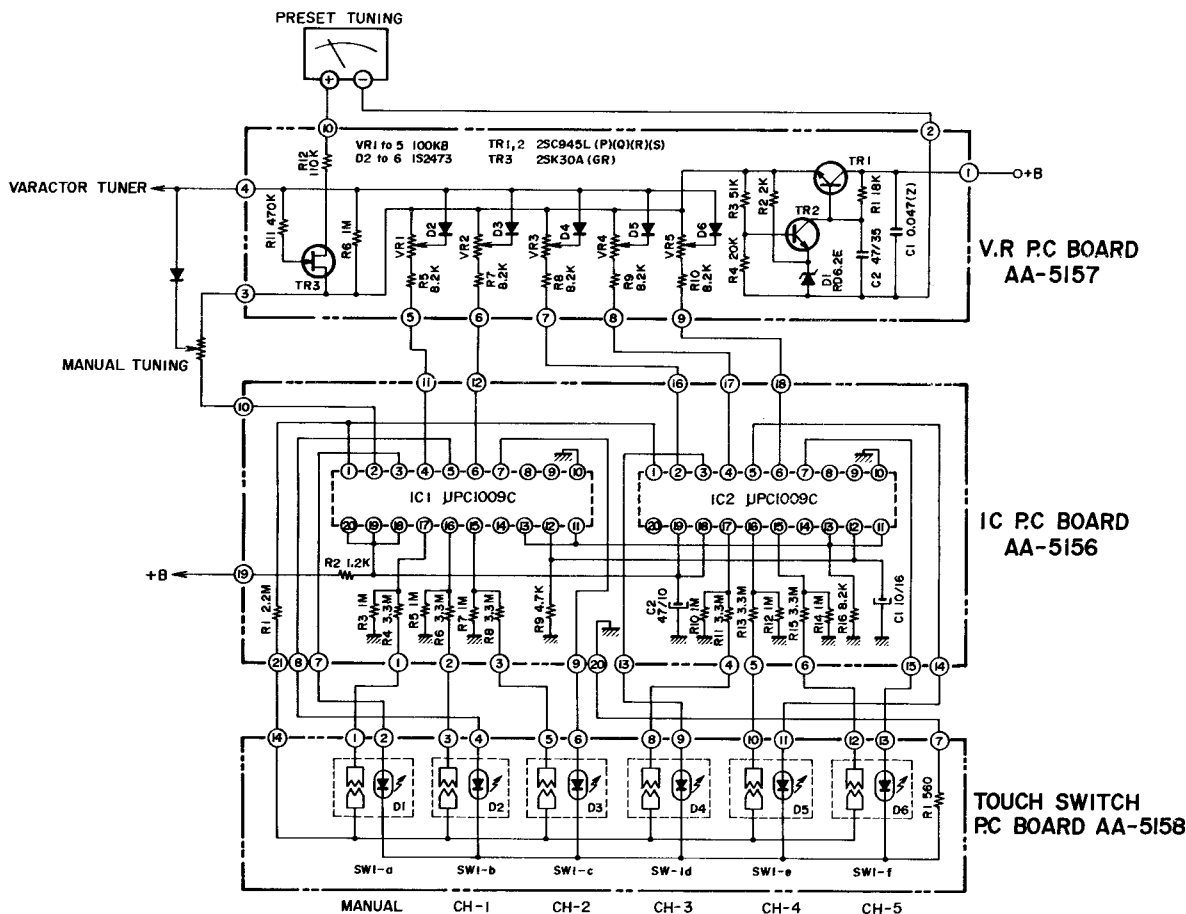
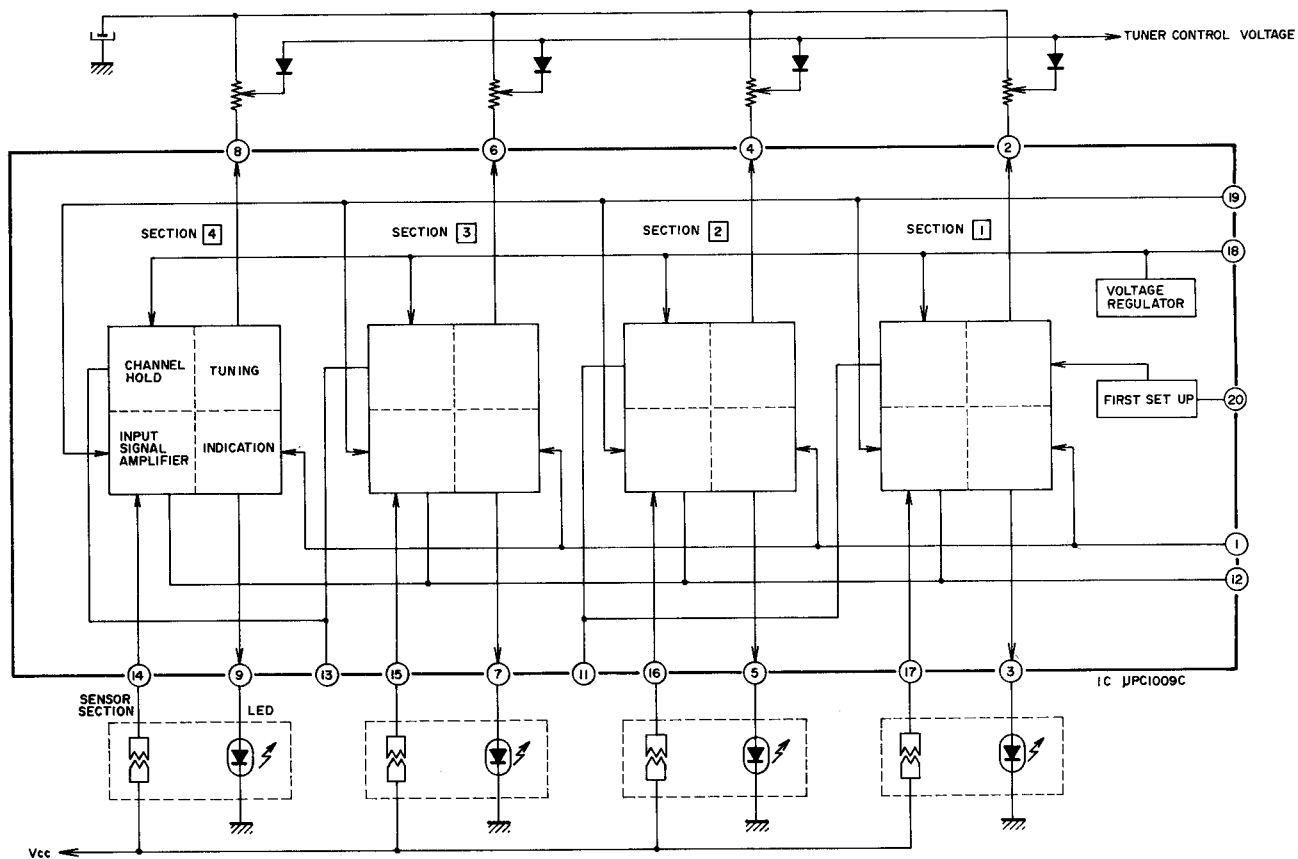
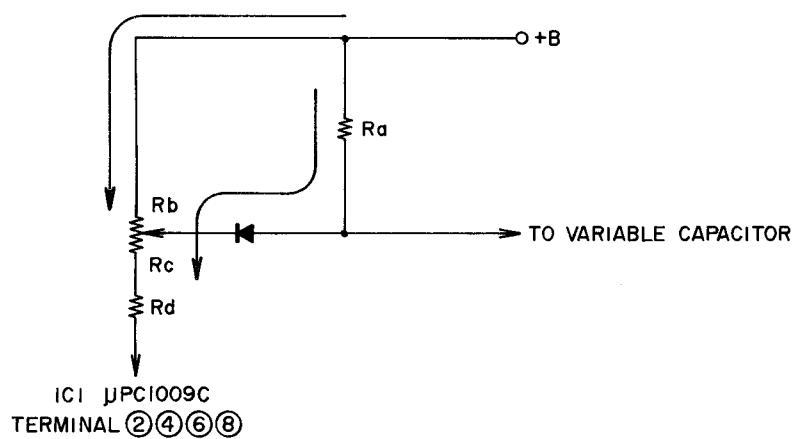

Fig. 7
Fig. 8
Fig. 9
The circuit shown in Fig. 7 is the control voltage generating preset volume and sensi-touch circuit. Fig. 8 shows the inside of circuit sensi-touch IC μ PC1009C which include the 4 channel circuitry. Terminals 14 through 17 are the input terminals; terminals ②, ④, ⑥, and ⑧ are the station selection output terminals; and terminals ③, ⑤, ⑦, and ⑨ are the pilot output terminals. When channel 1 sensor electrode is touched, voltage is supplied to the IC as the input signal through finger (body) resistance at terminal ①. Then, the impedance is lowered at IC station selector output terminal ② and current flows as shown by the arrow marks in Fig. 9. Consequently, because the supply voltage to the varactor tuner diode is changed by the dividing ratio of R_b and R_c , station selection is possible by means of setting the preset volumes beforehand according to the desired broadcast frequencies.